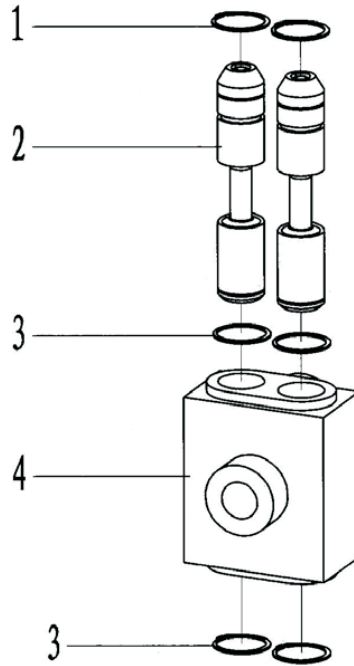

Fig.12
7.10-2-1 Double shaft control valve(Fig.12,Table12)